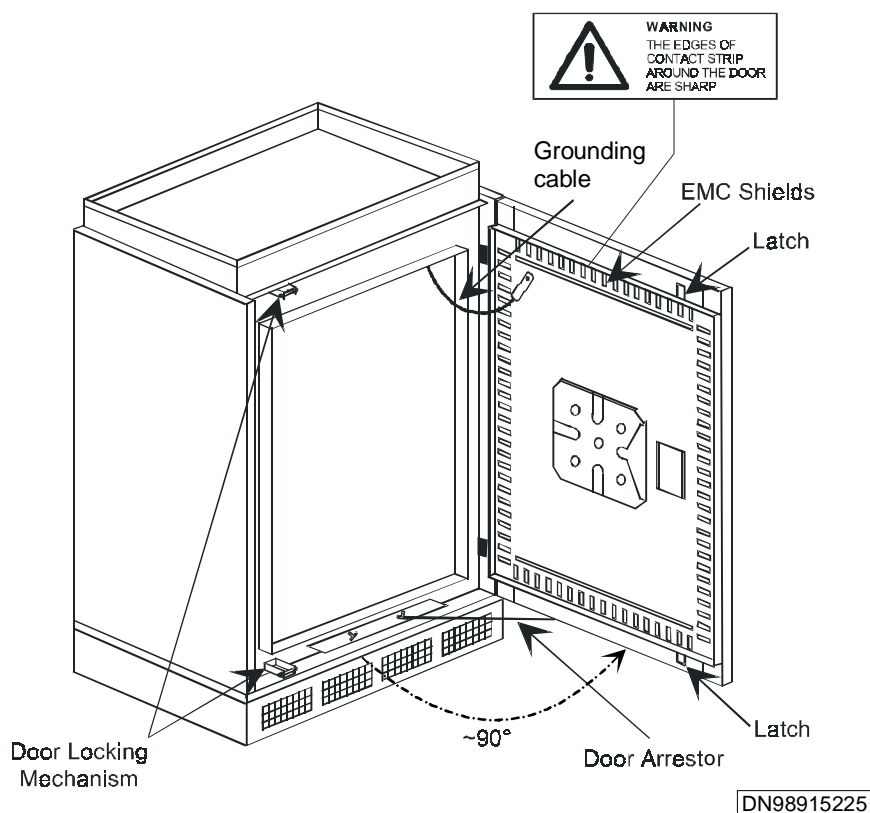

Figure 22 Cabinet door with EMC shields and ground cable
2. Unscrew the two M6 bolts which secure the door locking mechanism to the upper left frame of the cabinet. See Figure 22.
Ensure the bond between the ground cable and the cabinet door is at an angle of 45 degrees from the top edge of the door, as shown in Figure 22.
6. Unscrew the two M6 bolts which secure the door locking mechanism to the lower left frame of the cabinet. See Figure 22.
11. Detach the ground cable from the cabinet. The ground cable is secured to the cabinet with a M6 nut and washer. See Figure 22.